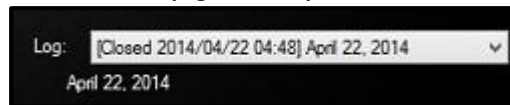

Figure 5.4-2: Example of a Closed Log
3. The name of the Log file will automatically change to **"Closed"** with the date and time at which it was closed (Figure 5.4-2).